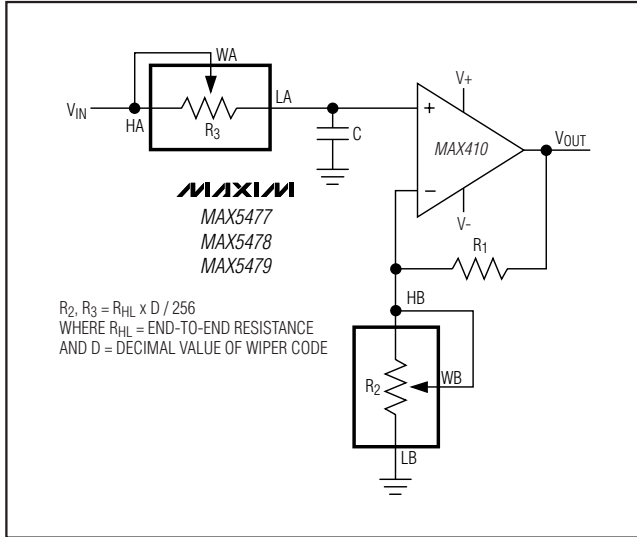

Figure 11. Programmable Filter
Figure 11 shows the MAX5477/MAX5478/MAX5479 in a 1st-order programmable application filter. Adjust the gain of the filter with R2, and set the cutoff frequency with R3. Use the following equations to calculate the gain (A) and the -3dB cutoff frequency (fC):